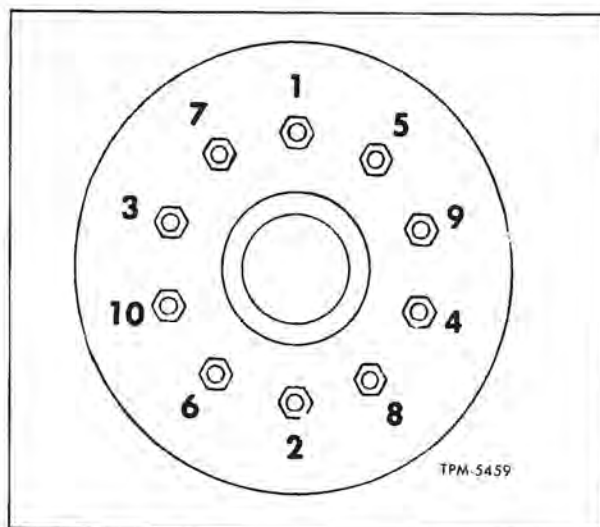

Figure 3—Wheel Nut Tightening Sequence
It is important that wheel stud nuts be tightened alternately on opposite sides of wheel. A suggested sequence for tightening is shown in figure 3, and a recommended procedure is as follows:
2. Tighten nuts progressively, in the sequence shown in figure 3, with torque wrench until torque limit is reached. Do not tighten each nut completely at one time but progress from one nut to another so that wheel is tightened uniformly.